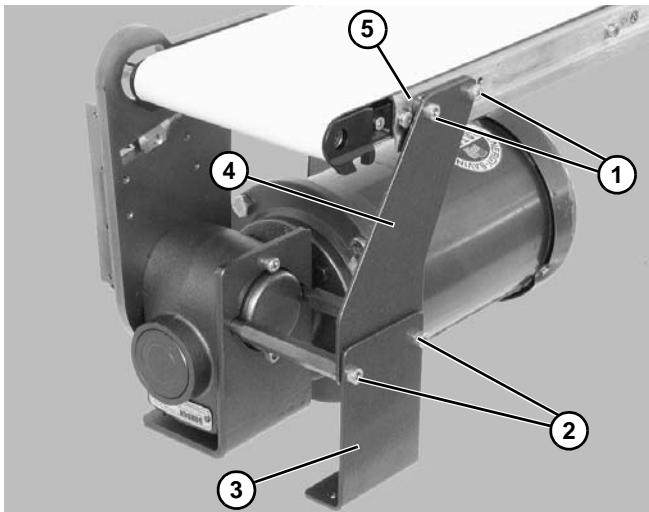

Figure 33
1. Remove screws (**Figure 33, item 1 and 2**) and remove support bracket (**Figure 33, item 3**), support plate (**Figure 33, item 4**) and spacer (**Figure 33, item 5**).